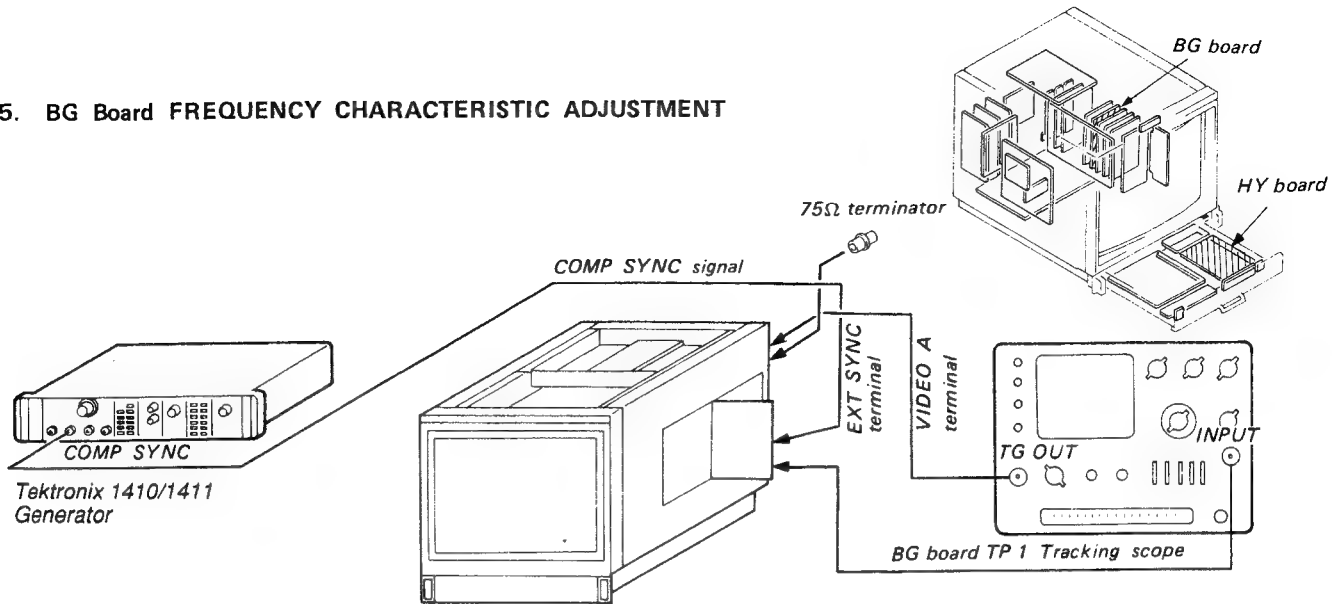

Fig. 5-1
- Complete the connection as shown in Fig 5-1.